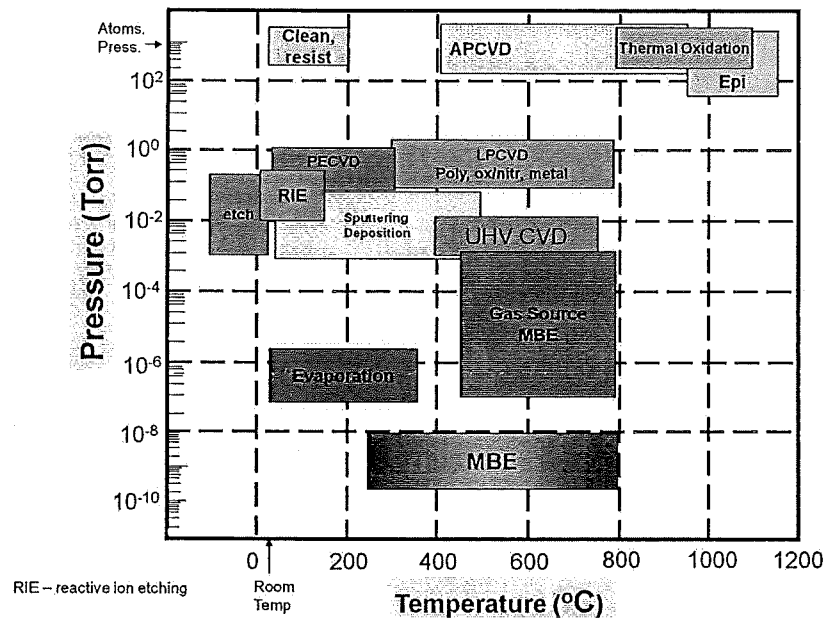

Figure 1: General processes in semiconductor fabrication
- [c] (i) Figure 1 shows common deposition process in semiconductor fabrication. Discuss three reasons why most of the deposition process need to be carried out under vacuum condition.